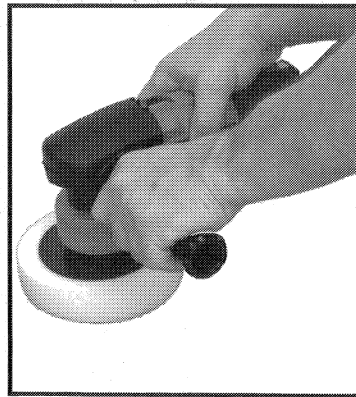

Fig. 3
3. Grasp polisher firmly with both hands, one hand on auxiliary handle and one hand on motor housing (see Fig. 3).